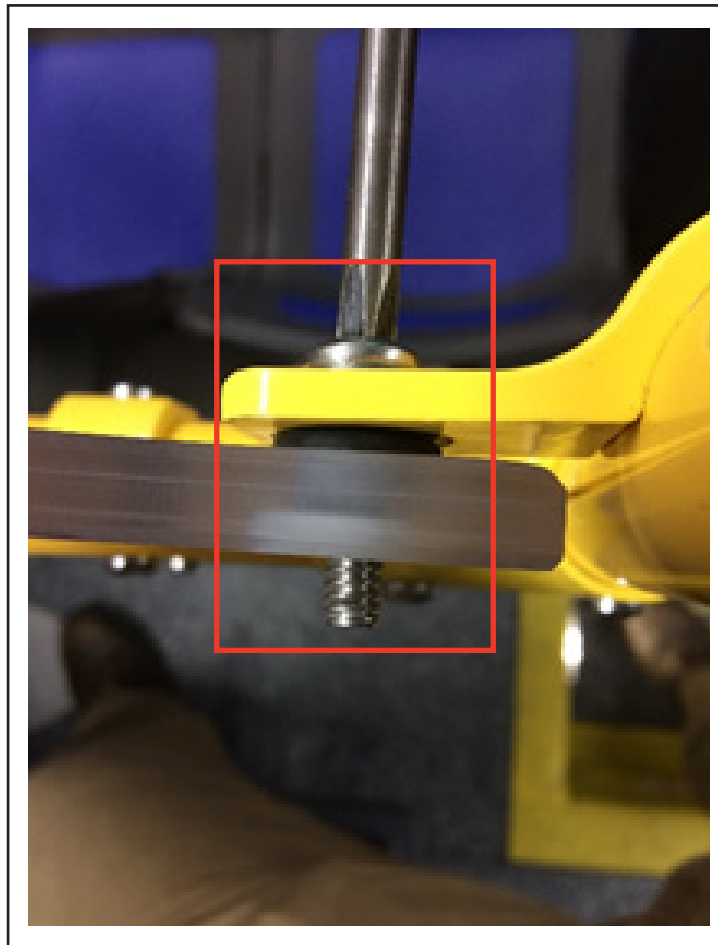

*Figure 4 - View of grommet on the Lexan Panel*
- 1.7. Once grommet has been removed, if original lexan panel has no cracks, clean the area using alcohol, remove all residual material from the holes on the lexan panels, a soft bristle brush can be used to help get the remaining residue (see figure 4).